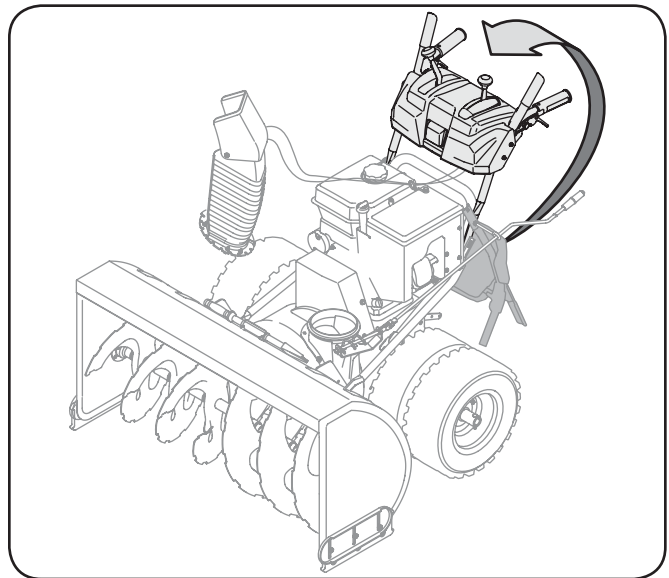

Figure 3-2
3. Raise the upper handle assembly until it snaps over the lower handle. See Fig. 3-2.